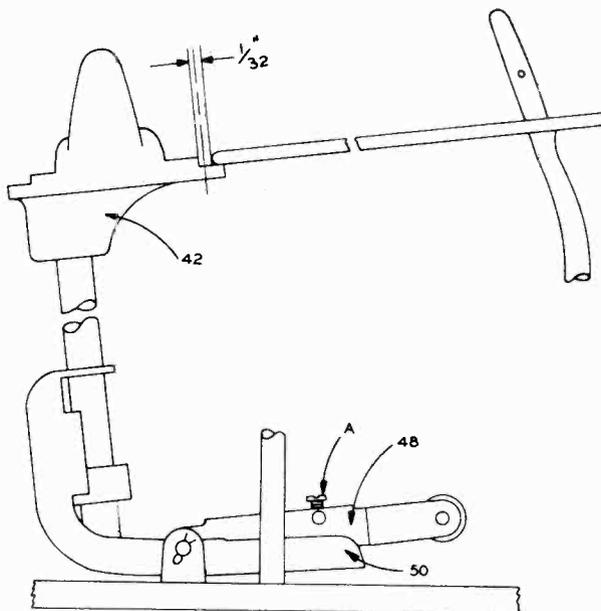

Fig. 6
board opening into the screw slot as shown at "A" in Fig. 6. Clockwise rotation of the screw will increase the distance between the Record Spindle and the Record Selector Post; counter-clockwise rotation will decrease it.
2. Pickup Arm Shaft (Illus. 22, Fig. 6). Apply one drop each to bottom bearing point, bracket hole and hole through Main Base Plate.